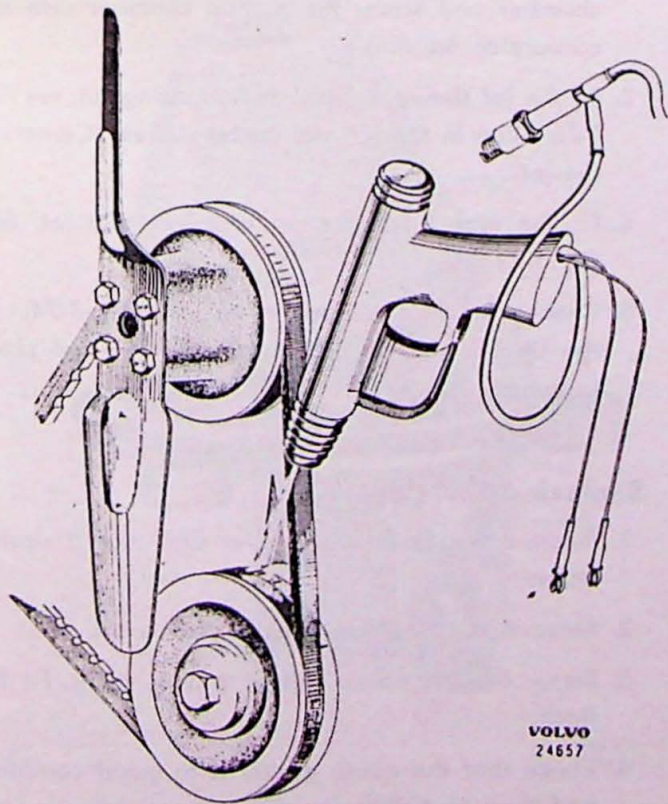

Fig. 1-69. Checking the ignition setting while the engine is running
3. Connect the lamp with the high tension cable to the spark plug in number 1 cylinder and the other two cables to the battery. See Fig. 1-69.